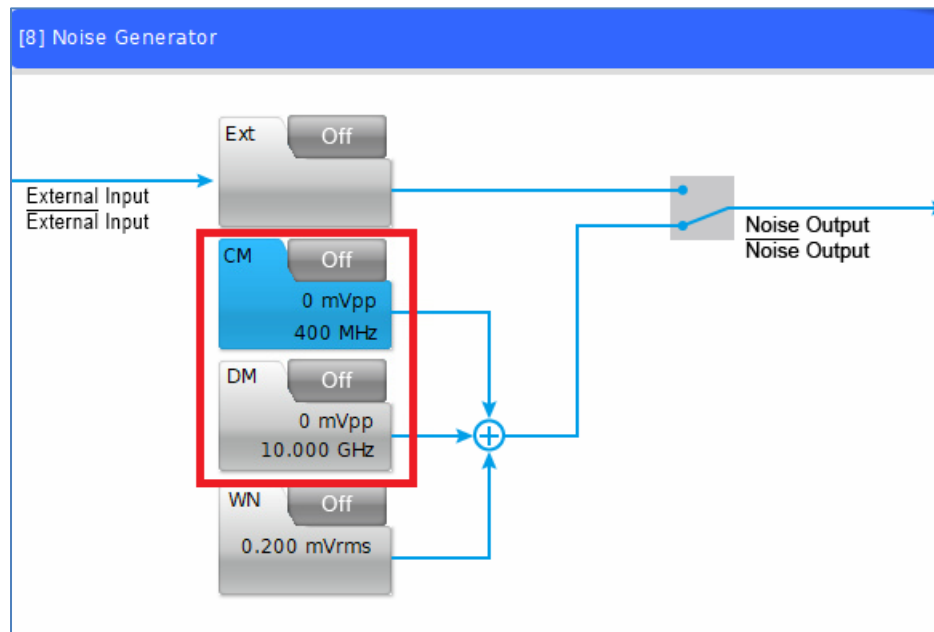

FIGURE 66. CM AND DM SETTING
- xiv. Set initial CM frequency to 400MHz and amplitude to 0 mVpp. Turn off CM output. See Figure 66.
- xv. Set initial DM frequency to 10GHz and amplitude to 0 mVpp. Turn off DM output. See Figure 66.